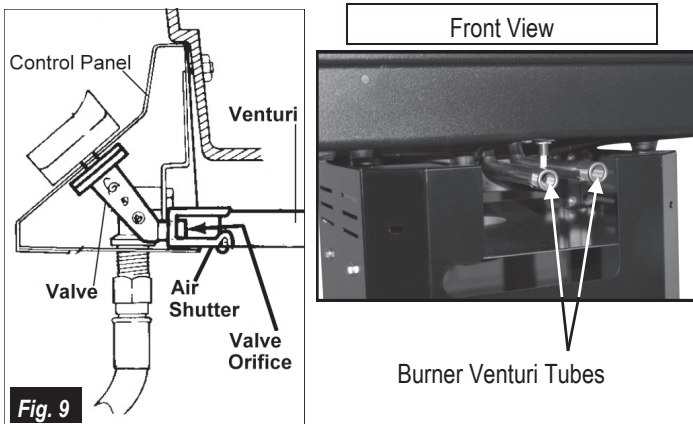

Fig. 9
2. Leave the (2) nuts holding the heat shield on, to serve as spacer nuts.
3. Make sure the valve orifices on the control panel aligns with the burner venturi correctly and that the venturi tubes go over the valve orifices at least 1/4" to 1/2" (see Fig. 9 page10).
## D. Orifice Engagement (Fig. 9)